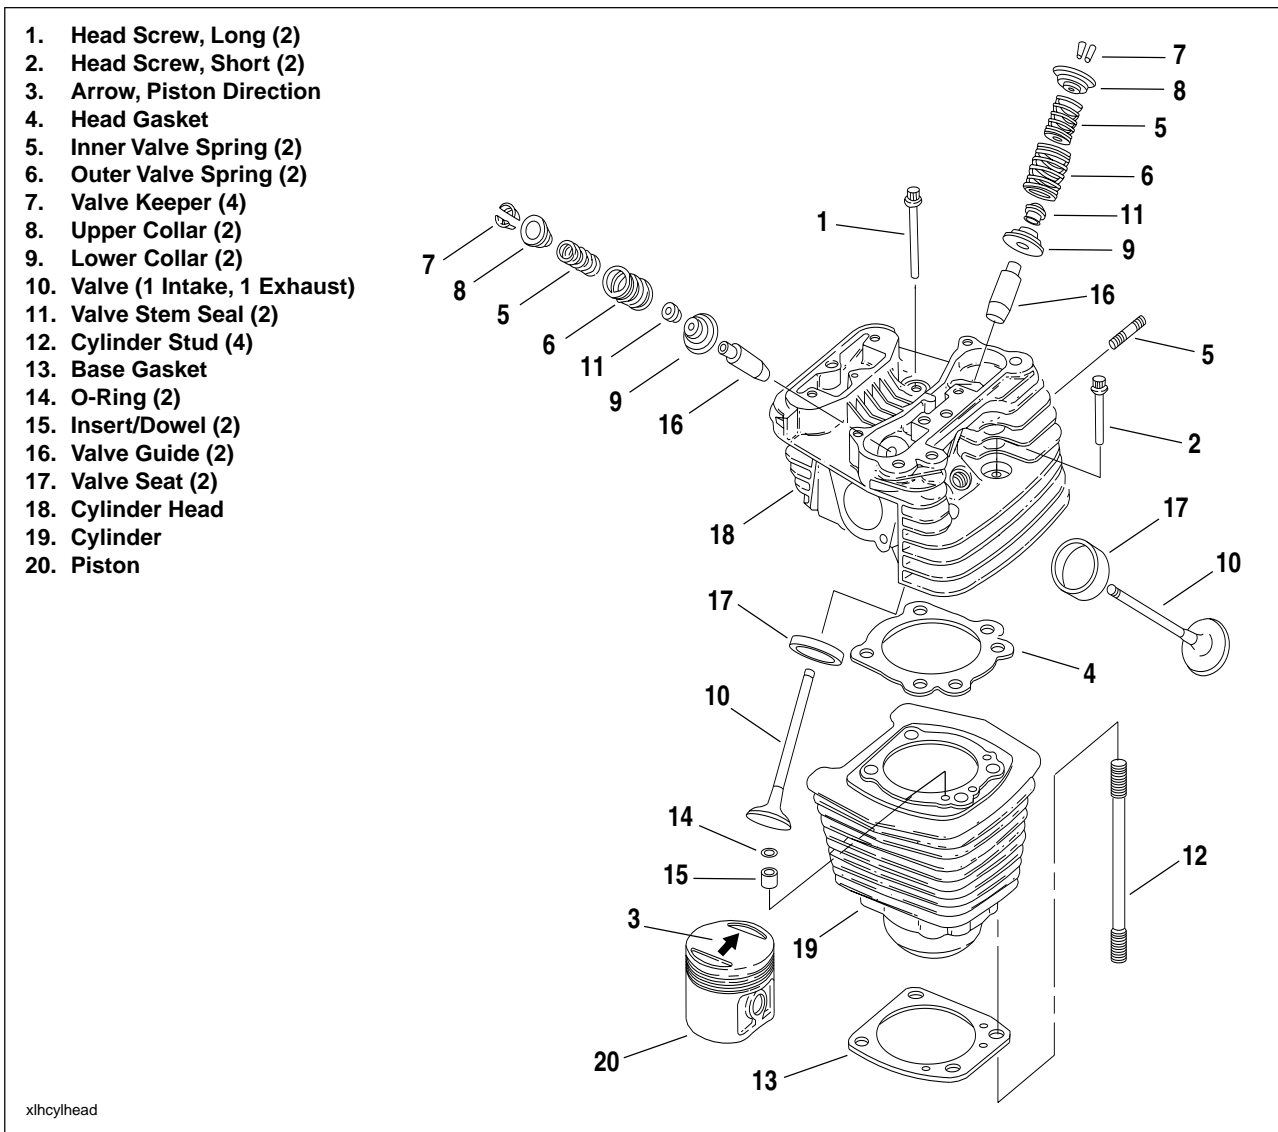

Figure 3-10. Cylinder Head, Cylinder and Piston
13. See Figure 3-10. Remove cylinder head (18), head gasket (4), and O-rings (14).
2. See Figure 3-10. Remove valve keepers (7), upper collar (8) and valve springs (5, 6). Mark valve keepers for reassembly in their original locations.
4. Mark valve to ensure that it will be reassembled in the same head. Remove valve (10), valve stem seal (11) and lower collar (9).